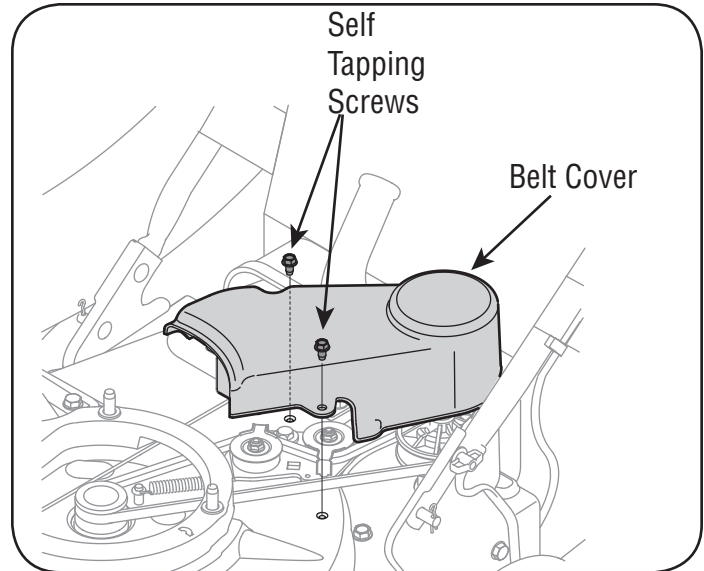

Figure 19
4. Remove the three self tapping screws securing the belt cover, and remove the belt cover. See Figure 19.